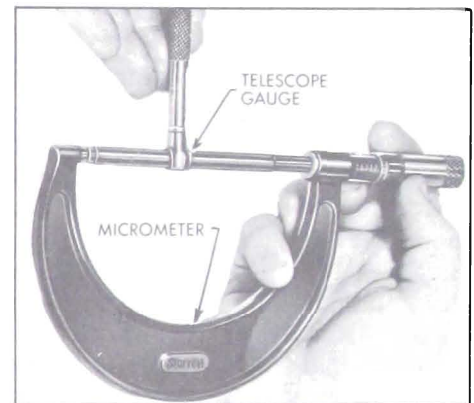

Figure 2-36—Measuring Telescope Gauge
2. Measure the telescope gauge. See Figure 2-36.